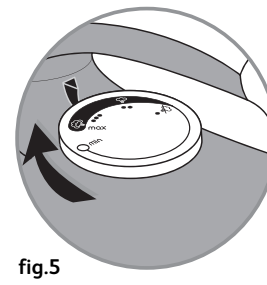

fig.5
- Adjust the thermostat button (fig.5), consulting the table below.
- Set the thermostat control to MAX (**fig.5**).